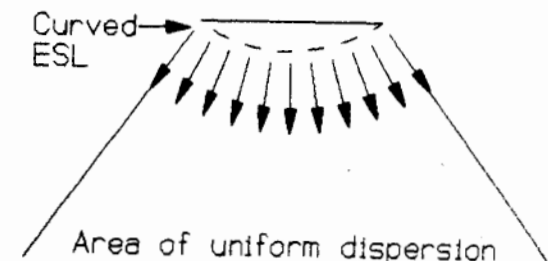

FIGURE 6-17: Wide dispersion produced by ESL.
**CURVED ESLs.** If you build the ESL in the shape of an arc, it will disperse the sound over the area "seen" by the arc as being perpendicular to the surface of the ESL (Fig. 6-17).